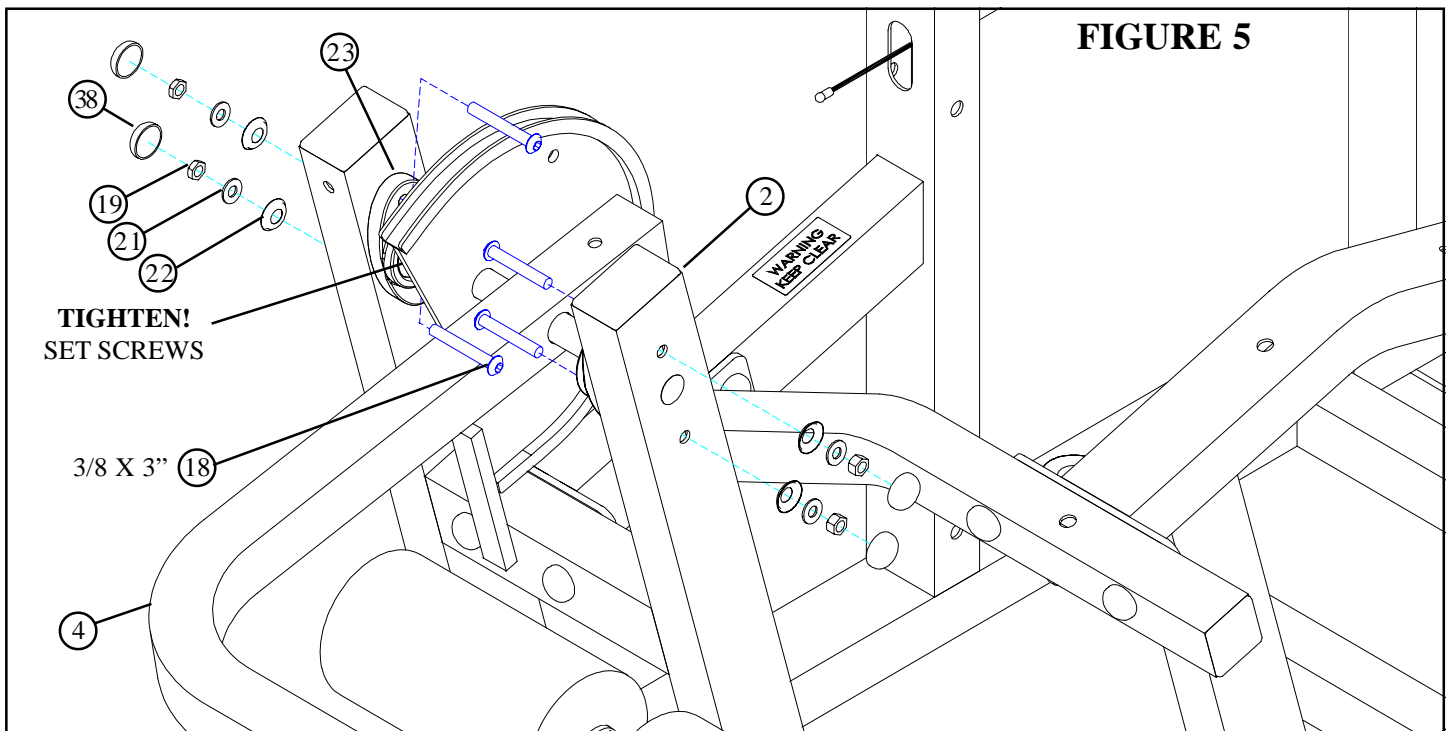

FIGURE 5
- **SECURELY** assemble the PILLOW BLOCKS (23) on the PIVOT ARM (4) to the LEG CURL SUPPORT (2) using four 3/8 X 3" BUTTON HEAD BOLTS (18), four RH WASHERS (22), four 3/8" SAE WASHERS (21), four 3/8" LOW HEIGHT LOCK NUTS (19) and four RH CAPS (38) as shown in FIGURE 5.
- **IMPORTANT!** When PIVOT ARM (4) is centered and level in the PILLOW BLOCKS (23), tighten the PILLOW BLOCK set screws.